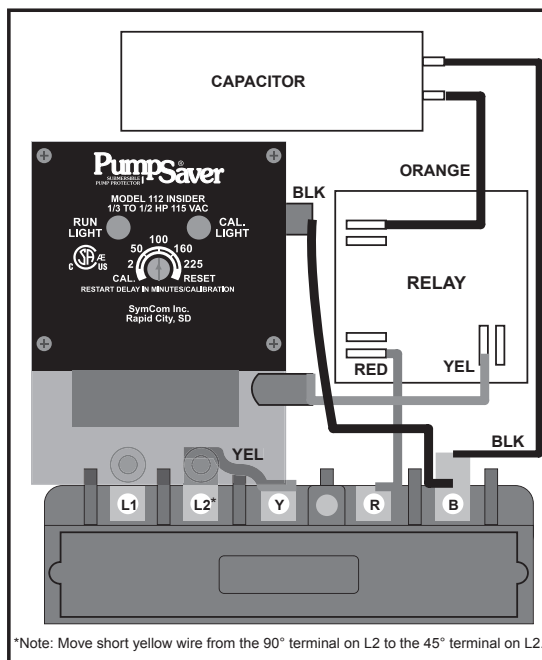

FIGURE NO. 2: CONTROL BOX WITH PUMPSAVER® INSTALLED
4. Press the PumpSaver® onto the L1 and L2 terminals (see Figure No. 2).
5. Connect the *yellow* wire to the bottom terminal on the PumpSaver® and the black wire on the upper terminal (see Figure No. 2).